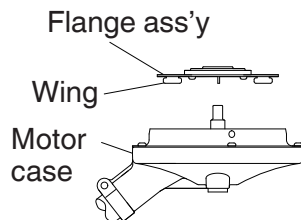

Fig. 10
2. Installation (Fig. 10 and 11)